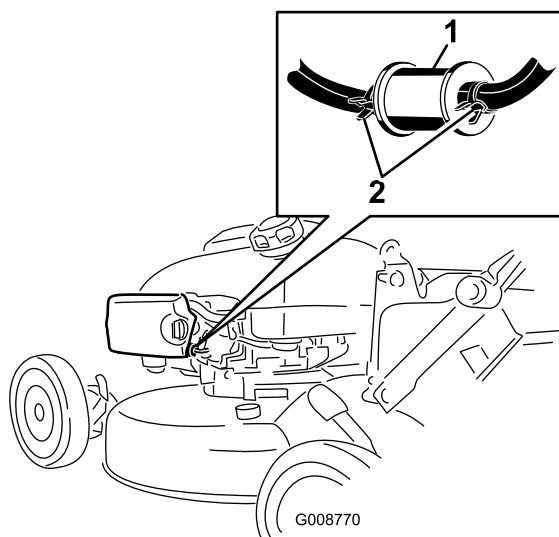

Figure 36
3. Pinch the clamps and remove the old fuel filter from the fuel line (Figure 36).
4. Install a new fuel filter, and secure it with the clamps (Figure 36).